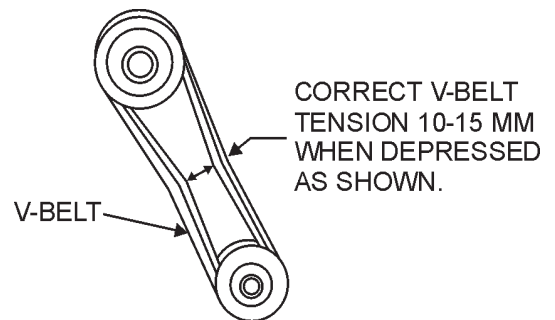

Figure 7. V-Belt Tension
2. The V-belt tension is proper if the V-belt bends 10 to 15 mm (Figure 7) when depressed with finger midway between the clutch and vibrator pulley shafts.